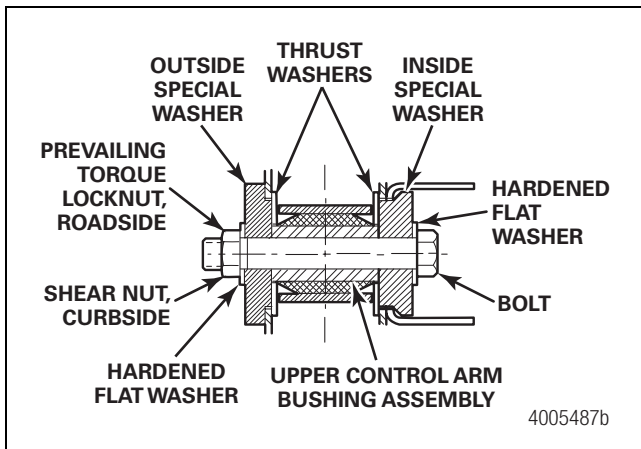

Figure 8
- G. Ensure that the pilots on the special washers go through the holes in the side plates and do not seize. Do not tighten the nuts to the final specifications. Figure 8.